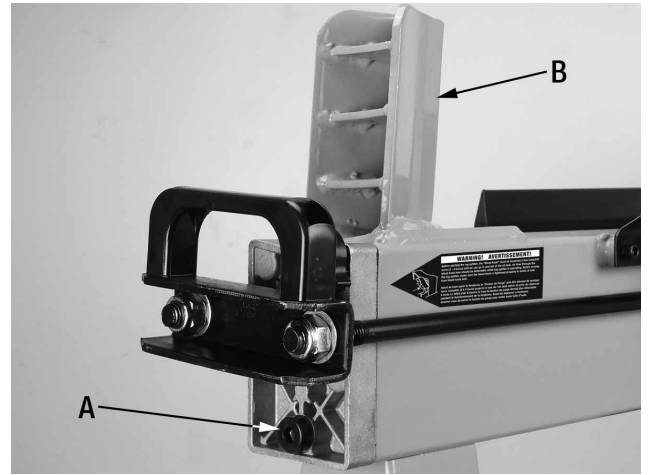

FIGURE 10
- 2) Unscrew the oil drain bolt/dipstick (A) Fig.10 with a hex. key.
After using the log splitter for an extended period of time, it may be necessary to sharpen the wedge (B) Fig.10 of the log splitter using a fine-toothed file and smooth any burrs or dented areas along the cutting edge.